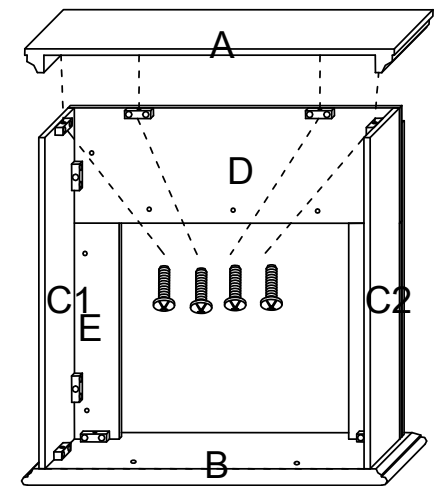

Figure 6
Install the **TOP PANEL** (A) to the finished assembly with 4 **KD SCREWS** (U). See Figure 6.